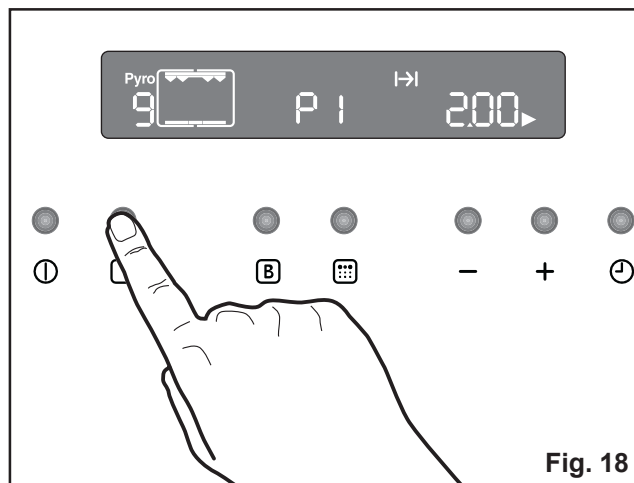

Fig. 18
1. Press button  to switch on the oven. Press the  button as often as necessary, until the "Pyro" function symbol  (level 1 - P 1) will appear on the display (Fig. 18).